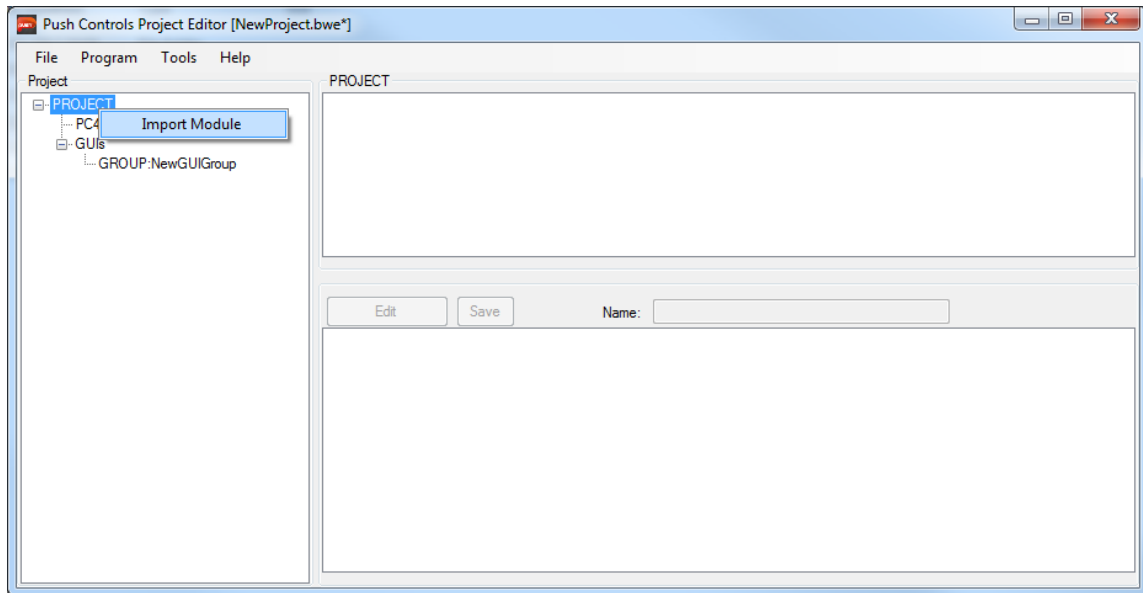

Figure 5 – Right click on PROJECT, inside the project tree, to import a module.
- Right click on 'PROJECT' at the top of the tree and select 'Import Module'. *Refer to Figure 5*